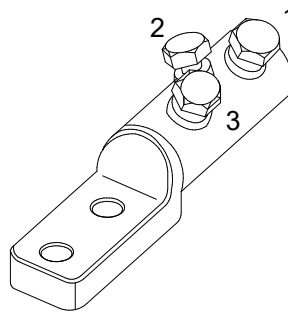

Figure 11
- E. Hand tighten the bolts to firmly grip the conductor. Use the tightening sequence shown in Figure 11 to tighten the bolts one-and-a-half turns. Bolts should remain un-sheared.